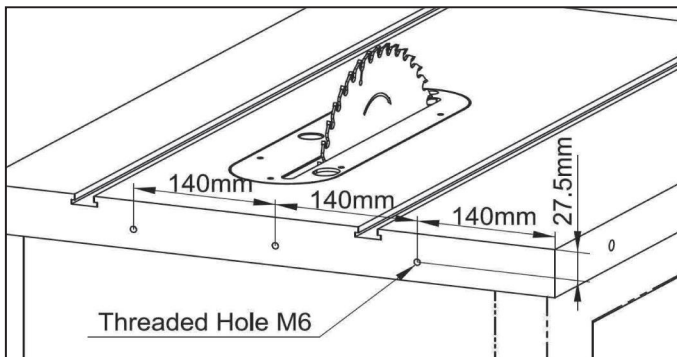

Fig. 6-8
1. Referencing the diagram in **Fig. 6-8**, carefully drill three M6 threaded holes on the rear guide rail mounting surface of the main table using the provided drill bit. Ensure these **holes are positioned 140mm from the right side of the main table and 27.5mm from the table's top surface**. Once drilled, use the provided tap to thread these holes. Take care and proceed slowly when tapping. After this process, the rear guide rail will align perfectly with the right side of the main table.